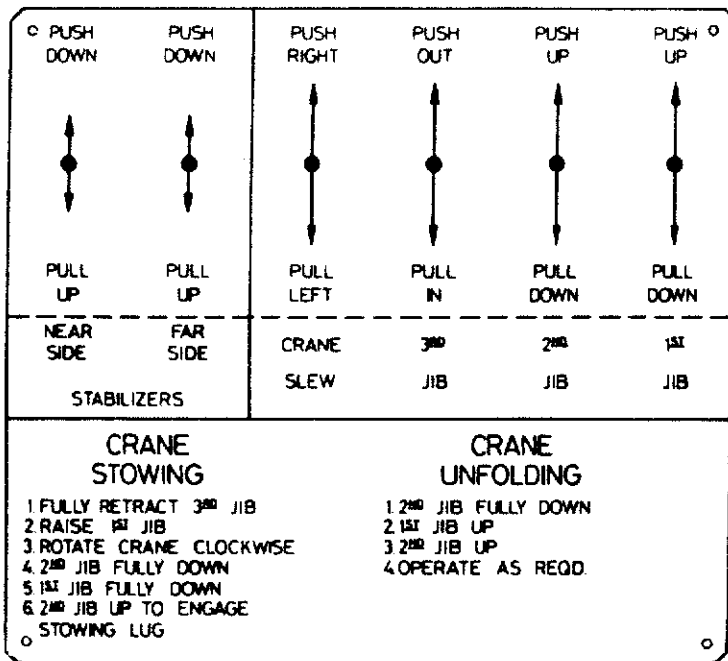

Fig. 22 Crane operating instructions
- (a) Operate the crane as per instructions on the signs (See fig. 22 and 23).
- (d) Using the controls situated adjacent to the stabilizer (Fig. 22), move the stabilizer control to the "DOWN" position until the stabilizer pad touches the ground.
#### 160. Crane unfolding (See fig. 22)
**161. Crane stowing (See fig. 22)**
- (a) Move stabilizer control handle to "UP" position, this raises the stabilizer foot (See fig. 22).